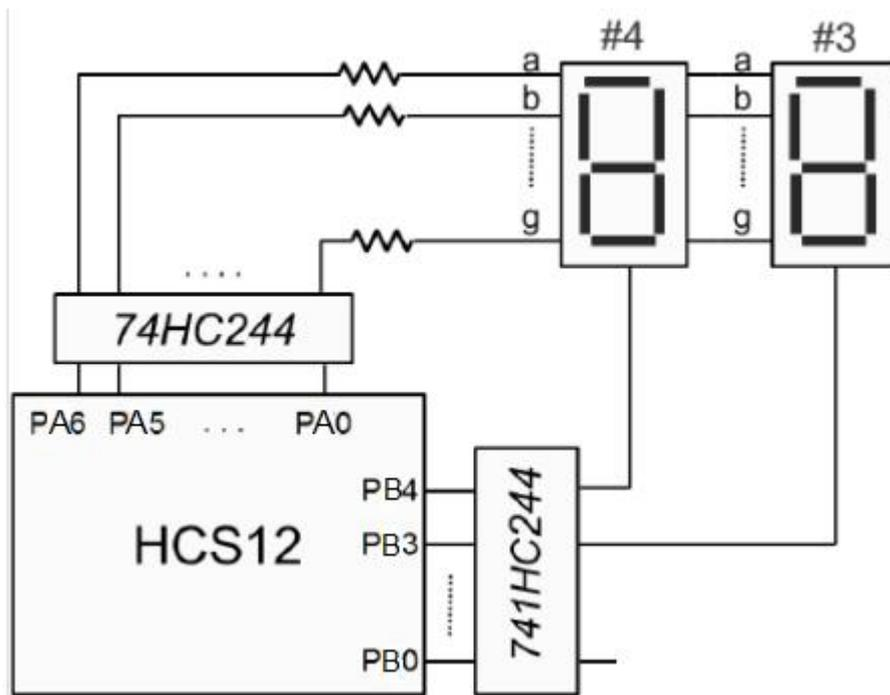

Figure 2. Connecting two 7-segments display to display two digits.
4. Modify your hardware to design the circuit shown in figure 2.